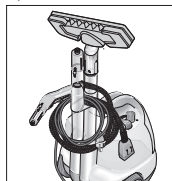

Figure 11: Clearing up
- Put the two extension tubes one after the other into the accessory case (A6) located on the rear of the appliance. Put the floor nozzle (H1) on an extension tube (see Figure 11).